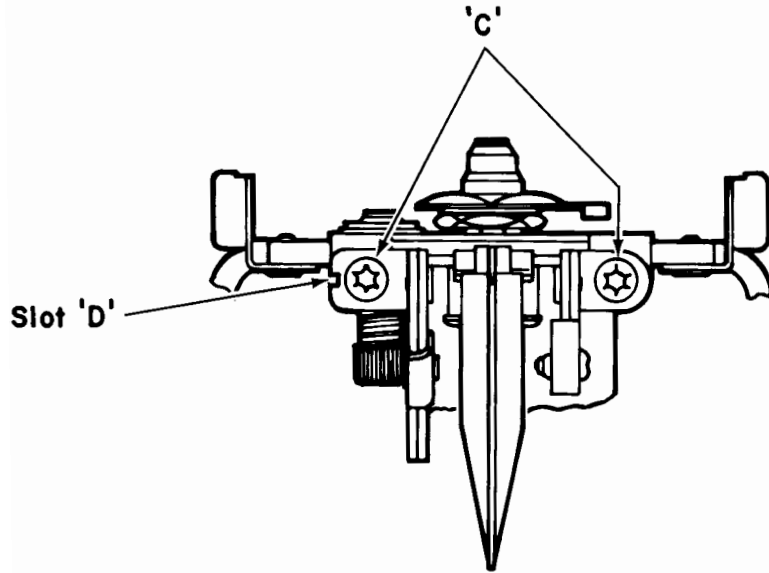

Figure 7.
3. Refer to figure 7. To correct side-to-side shading:
- a. Loosen screws (C) on each side of the hammer adjustment bracket.
- b. Using a small screwdriver in slot (D), adjust the hammer azimuth angle. **NOTE:** After each change in azimuth, screws (C) should be tightened and a row of "H's" printed.